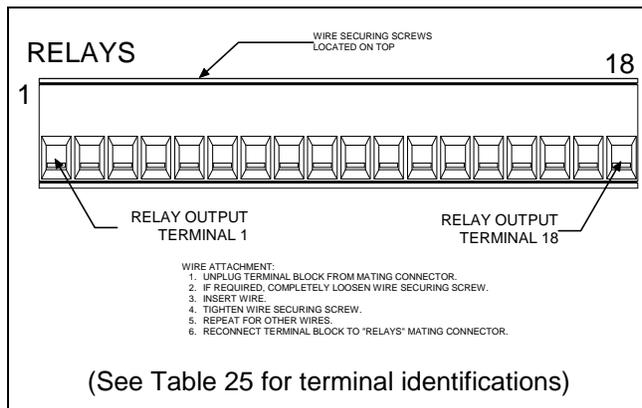

Figure 9 – Relay Terminal Block At Enhanced Audio Enclosure
- As required, connect the relay contact outputs to external equipment. See Table 25 and Figure 9. Specified contact rating for all relays is 0.75 amps at 26 Vdc. Open contact isolation is specified to 500 Vrms at 60 Hz. Isolation between any relay terminal and the Enhanced Audio Enclosure's ground is also specified to 500 Vrms at 60 Hz.